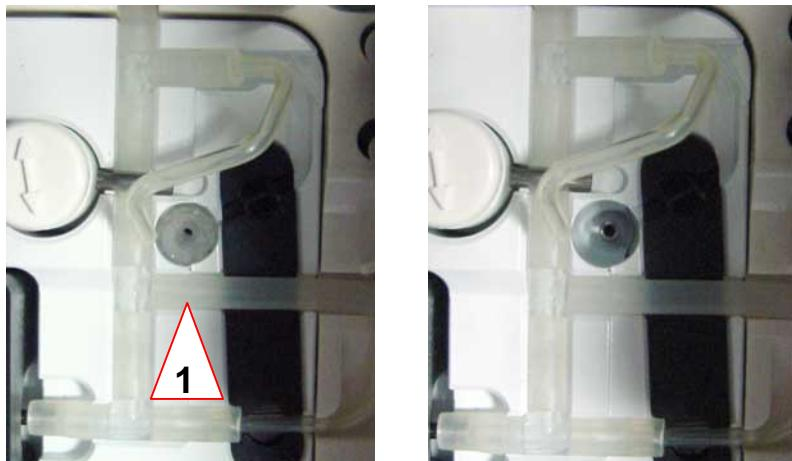

Fig. 3-26 FMS connector sealing 2
2. Pull off the FMS connector sealing 2 from the pipe (see Fig. 3-26, 1).